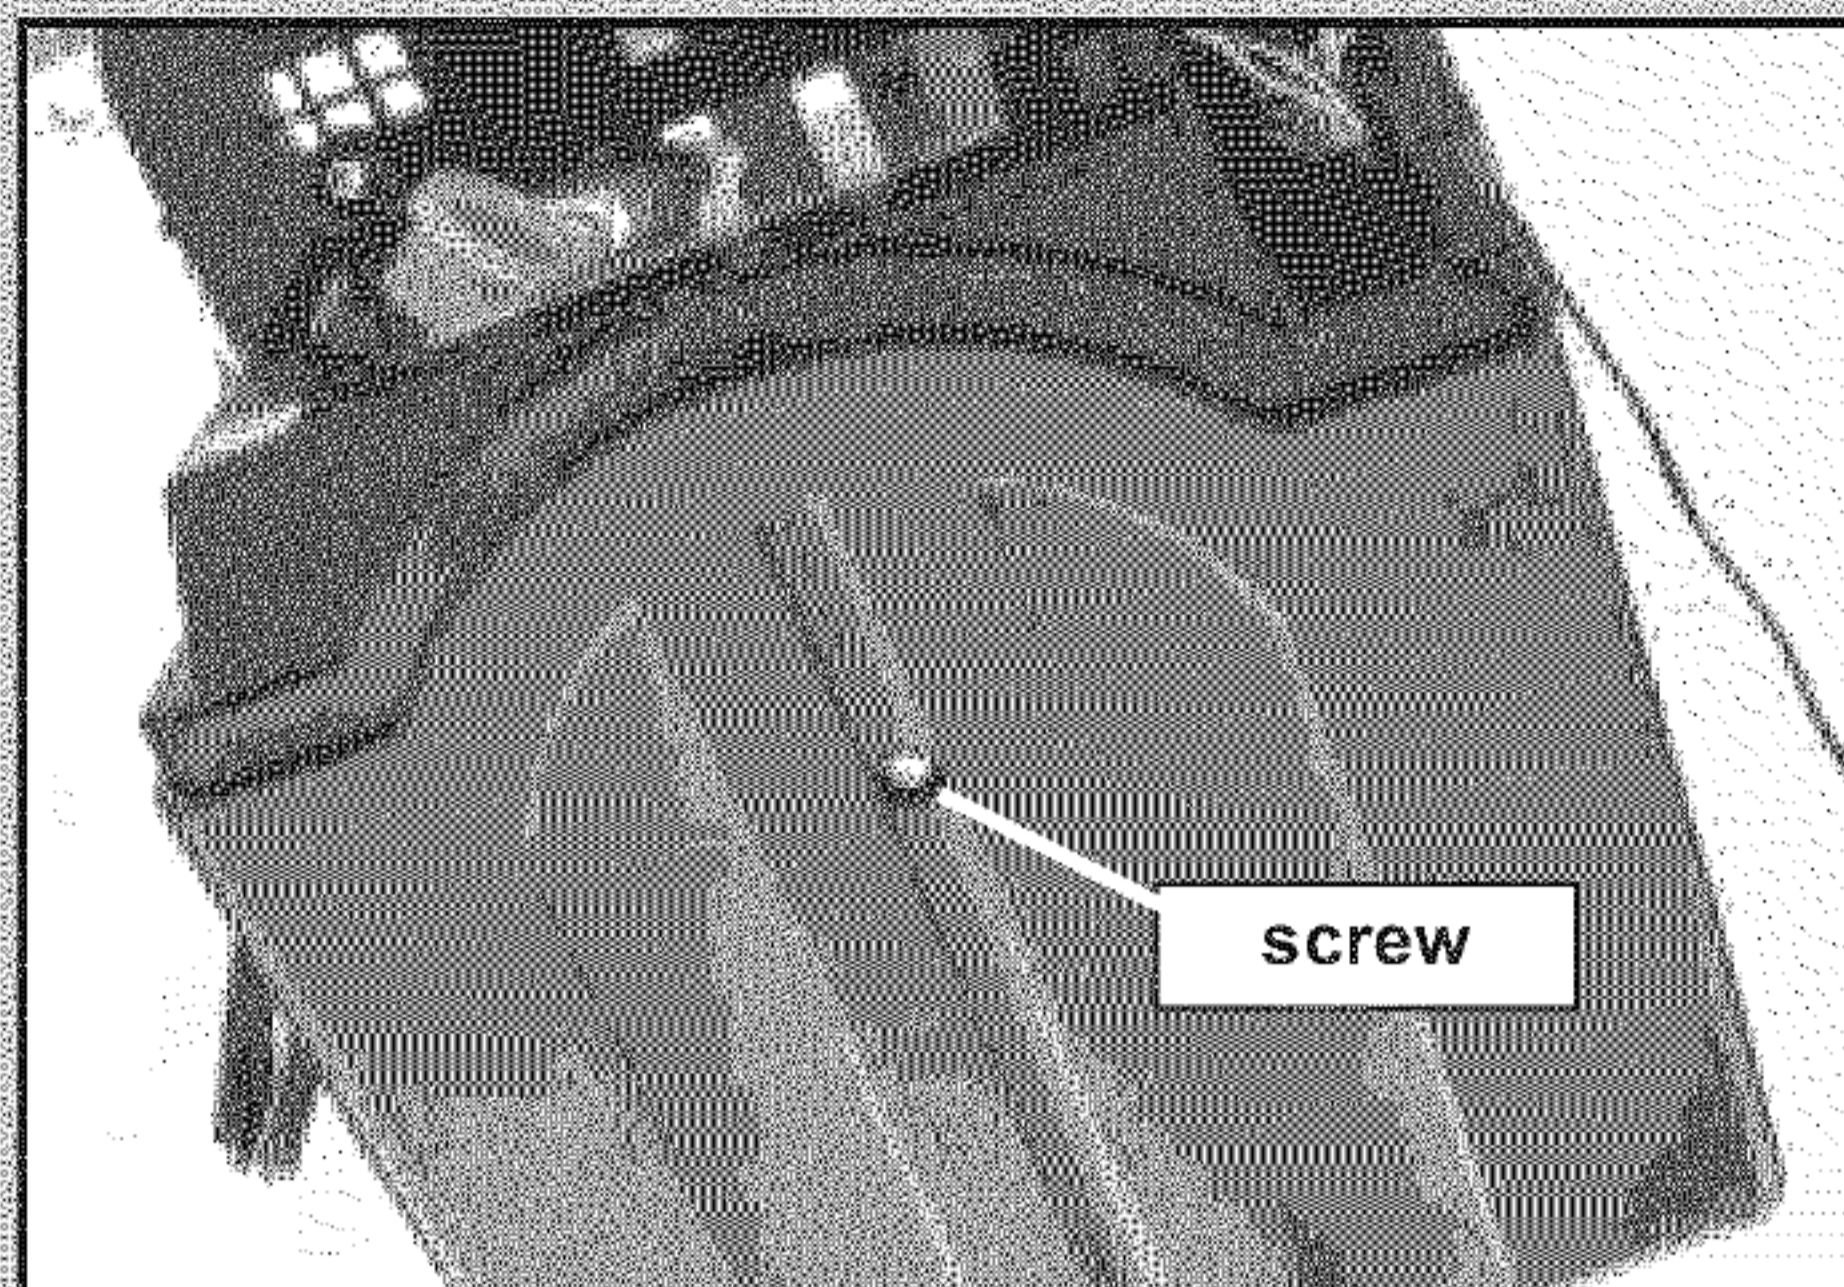

FIG. 6-1 Removing motor cover
- Remove motor cover (Fig. 6-1).